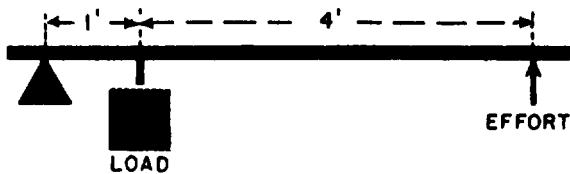

Figure 1C
- 1-14. Resistance arm in figure 1C